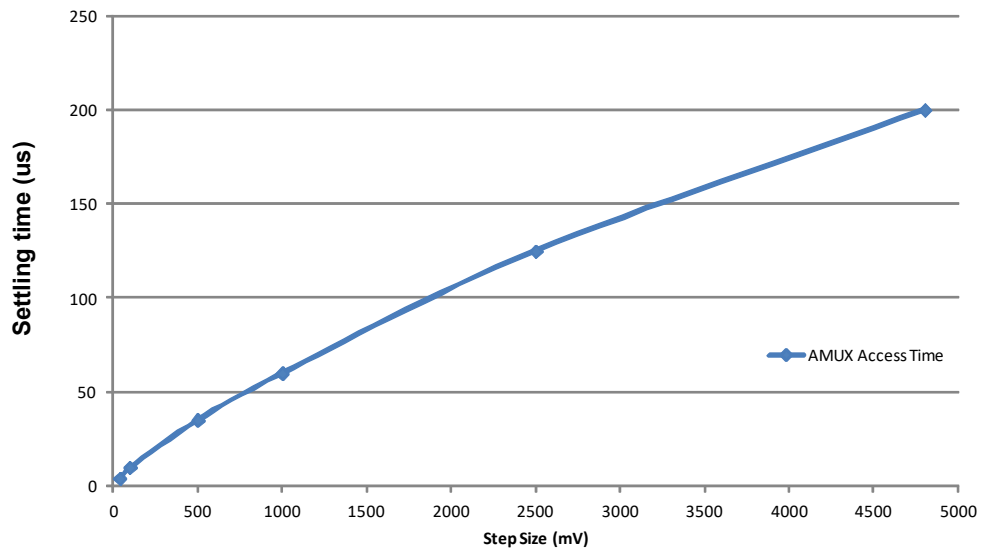

Figure 9. AMUX access time waveform
25. AMUX settling time to be within the 10 mV offset specification. $AMUX_{\text{VALID}}$ is dependent of the voltage step applied on the input SGx/SPx pin or the difference between the first and second channel selected as the multiplexed analog output. See Figure 9 for a typical AMUX access time versus voltage step waveform.